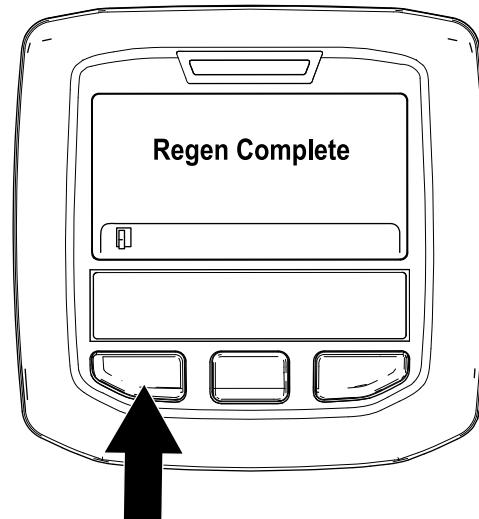

Figure 57
- The parked regeneration is complete when the "Regen Complete" message displays in the InfoCenter. Press the left button to exit to the home screen (Figure 57).